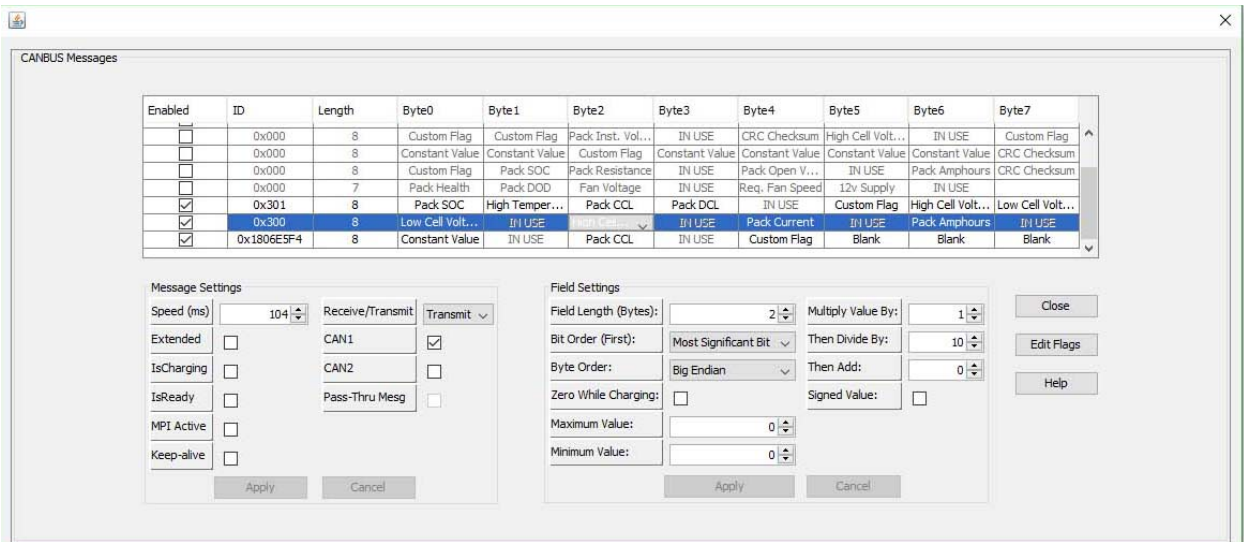

Fig. 11
7. Make sure that the Message and Field Settings for **High Cell Voltage** are the same as in (Fig 11).